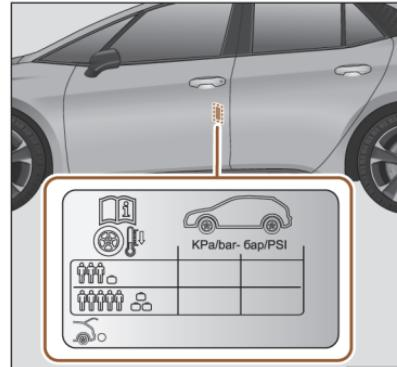

Fig. 195 Location of the tyre pressure sticker.
- Adjust tyre pressure to the load being carried by the vehicle >>> **Fig. 195**.
The values of the tyre pressure are shown on the sticker label located on the read frame of the front left door **>>> Fig. 195**.
The tyre pressure must be adjusted according to the load the vehicle is carrying. If the vehicle is going to be fully loaded, increase the tyre pressure to the maximum load value shown on the sticker label **>>> Fig. 195**.
In the case of a minimised temporary spare wheel (125/70 R16 or 125/70 R18) inflate to a pressure of 4.2 bar as indicated on the tyre pressure label **>>> Fig. 195**.
- The driver is responsible for ensuring that all of the vehicle tyres are correctly inflated to the right pressure. The recommended tyre pressure is indicated on the label **>>> Fig. 195**.
- Tyre pressure should be that indicated on the label when the tyres are cold at all times **>>> Fig. 195**.